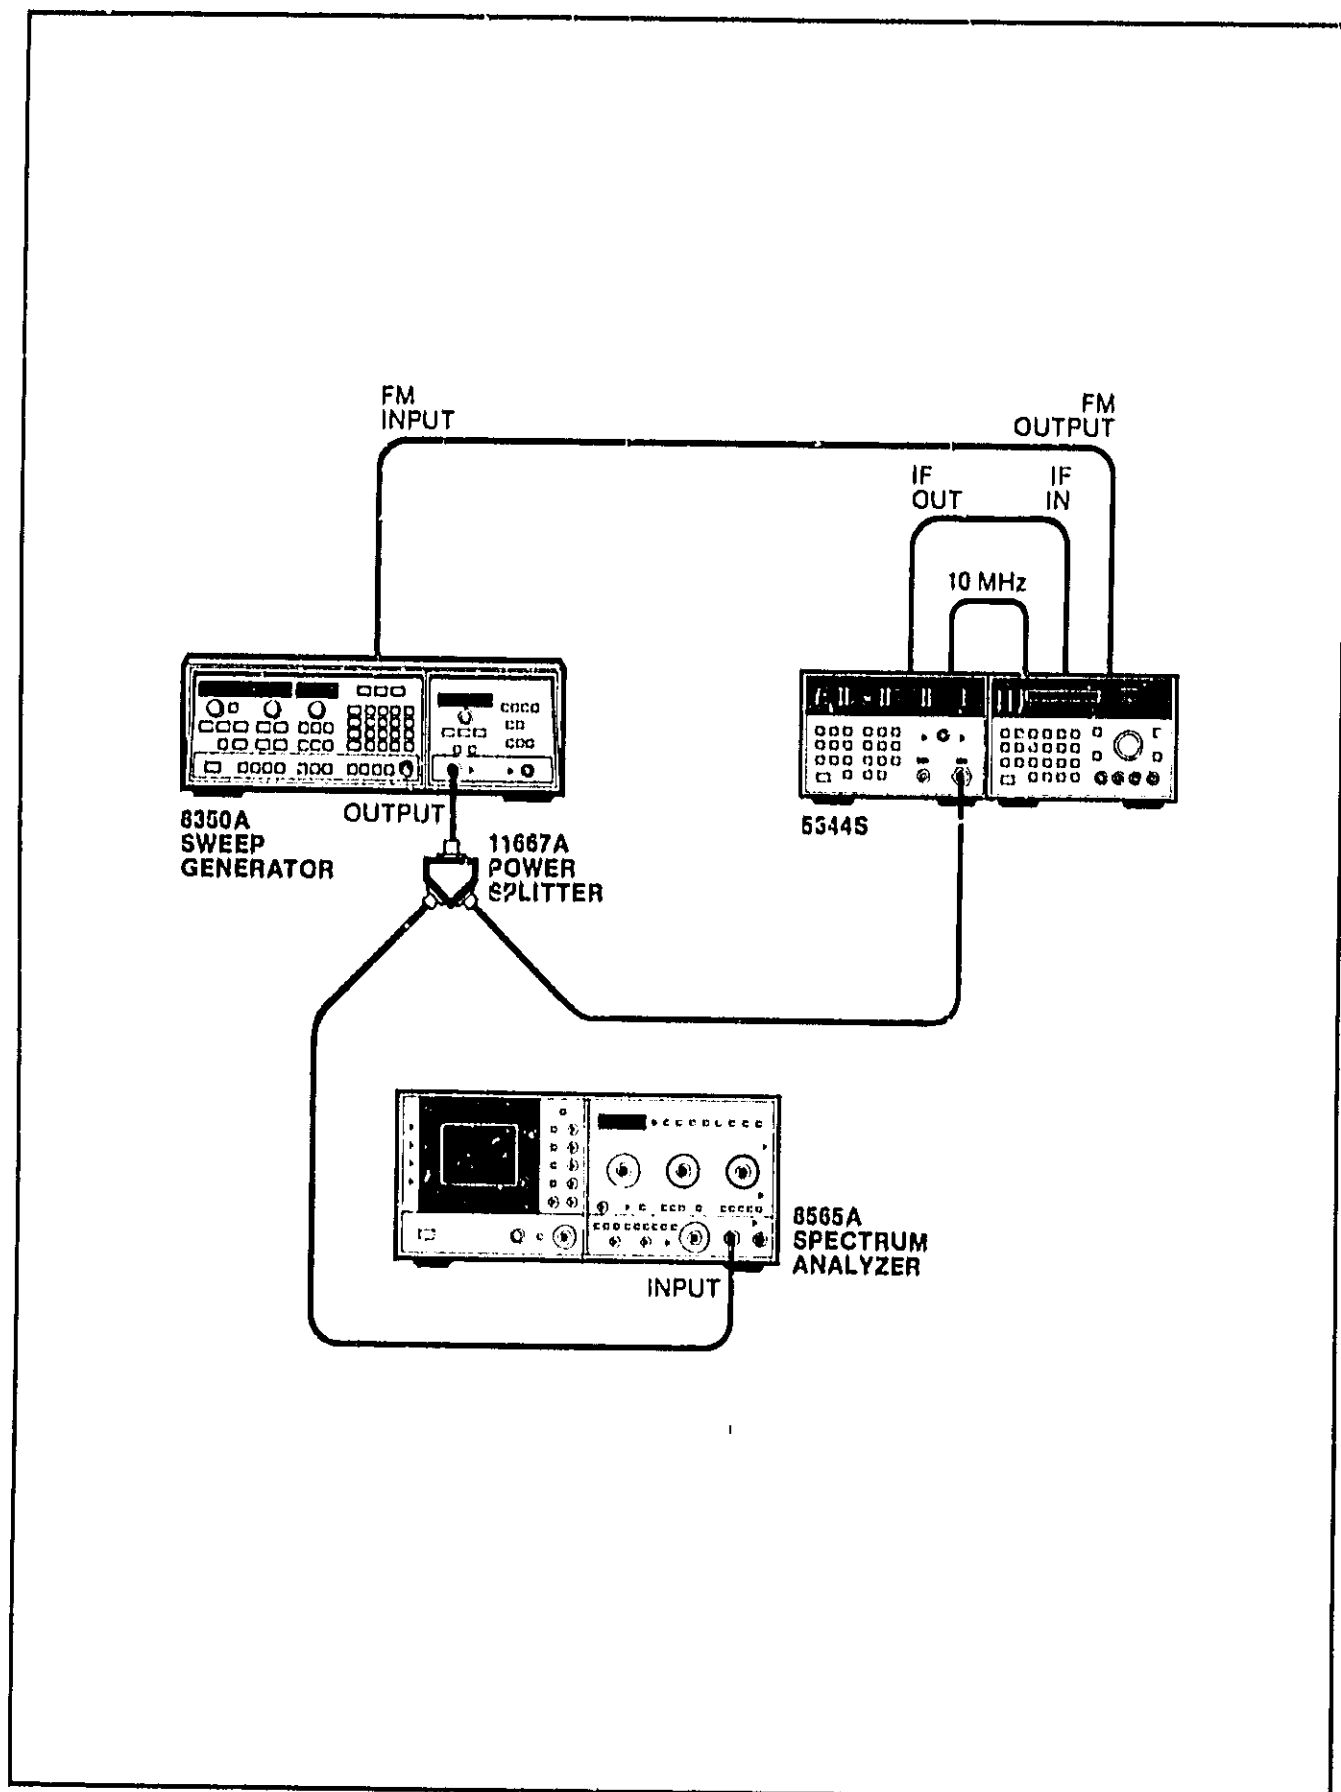

Figure 4-3. Performance Test Setup
- a. Connect the equipment as shown in *Figure 4-3*.
- a. Connect the equipment as shown in Figure 4-3.